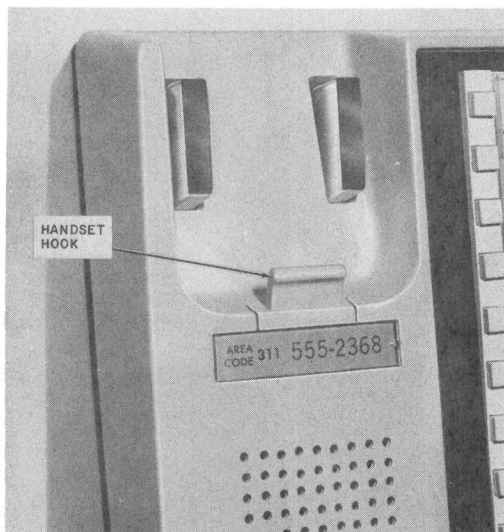
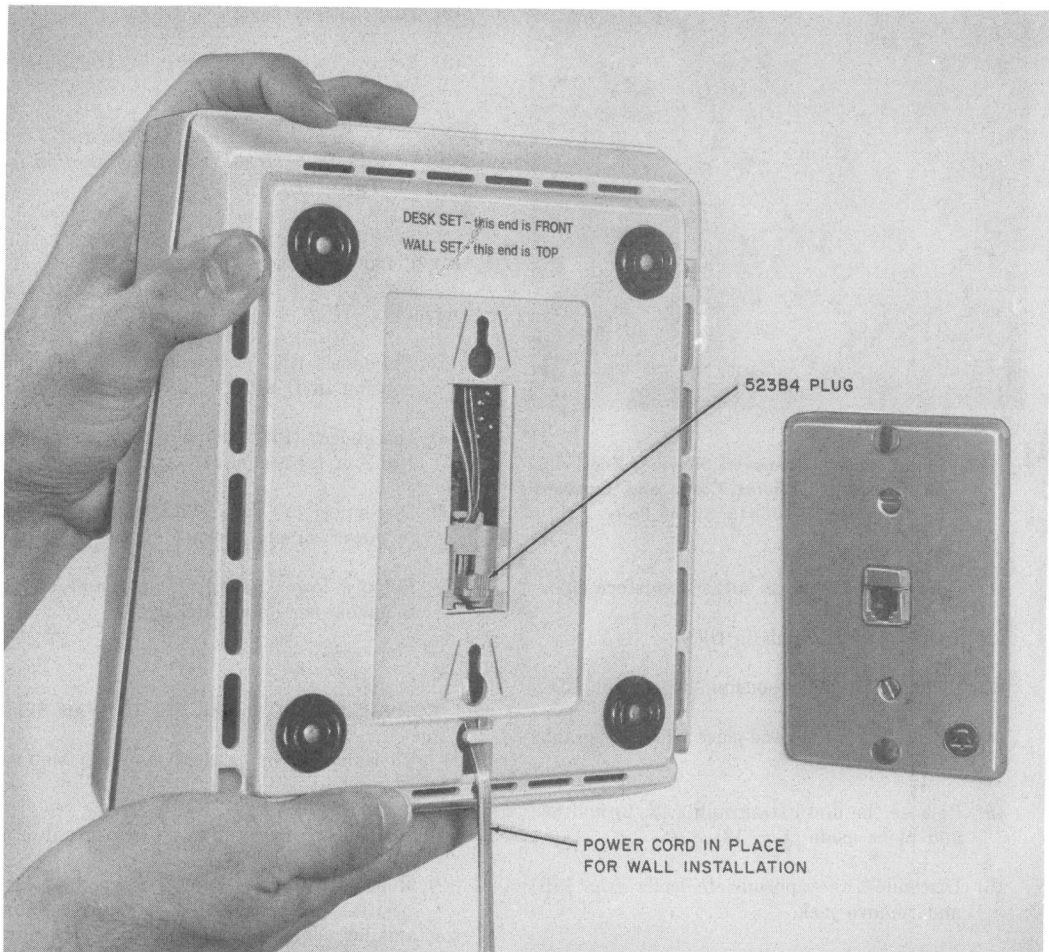

Fig. 11—2960A01M Telephone Set With Handset Hook Reversed for Wall Mounting
Fig. 12—2960A01M Wall Set and 630A4 Connecting Block
- (1) Remove the lower housing (paragraph 3.17).
- (2) Remove the 523B4 plug from its stored position and snap both sides of the plug into rectangular slot in the bottom of the lower housing. Snap plug in from the outside so that the word **TOP** is properly oriented in the housing (Fig. 12). The plug should slide freely in the slot.
- (3) Insert the other end of the 523B4 plug into the jack position designated **PHONE** on the power supply board.
- (4) Insert the power cord up through the cord opening below the plastic retainer tab in the bottom of the lower housing (Fig. 12).
- (6) Place the lower housing on the chassis according to the instructions on the bottom (Fig. 12).
- (7) Engage the four captive screws to fasten the lower housing to the bottom of the chassis.
- (8) Remove the station number card retainer and station number card from the upper housing.
- (9) Disengage the captive screw from the chassis and lift out the concealed handset hook and screw from the cavity in the upper housing.
- (10) Completely remove the captive screw from one side of the handset hook and insert it into the other side.
- (11) Place the handset hook back into its cavity in the upper housing, engage the screw with the chassis, and fasten the hook down (Fig. 11).
- (12) Replace the station number card and card retainer.
- (13) The converted wall set is intended to plug into and secure to a 630A4 connecting block (Fig. 12 and 16B).